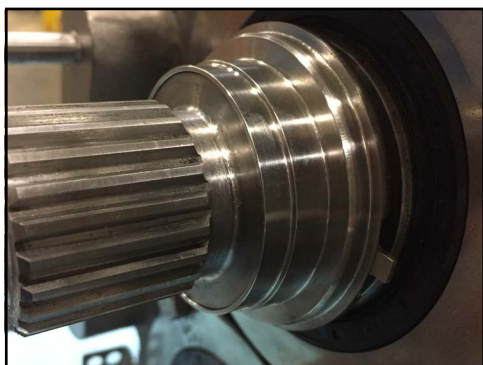

Figure 200 - Adjusting ring installed
19. Figure 200 shows the adjusting ring installed.